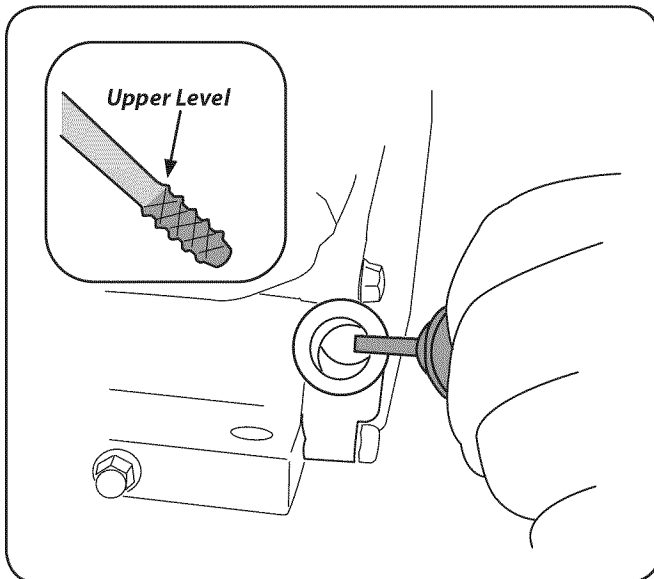

Figure 3-3
2. Remove the oil filler cap/dipstick and wipe the dipstick clean. See Fig. 3-3.